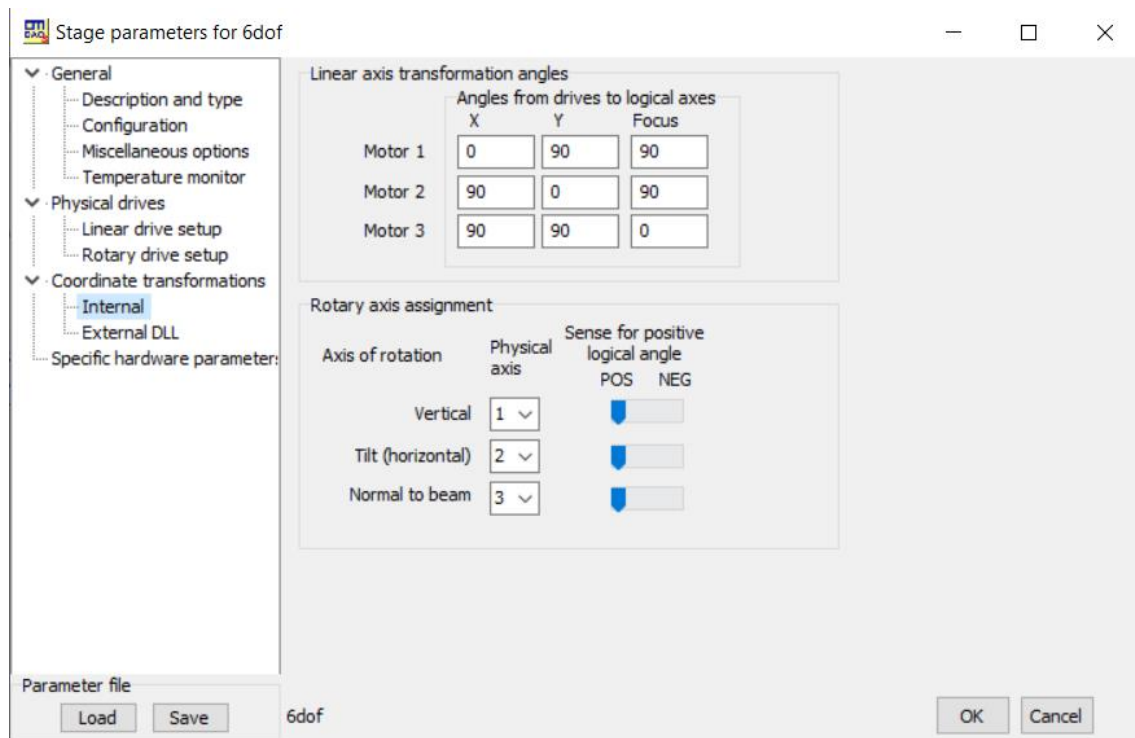

Figure 3 – Settings so that physical and logical coordinates are the same in OMDAQ3.
***Please note that OMDAQ3 makes a distinction between physical and logical coordinates. The coordinates seen by the user in the data acquisition system are the logical coordinates. By default, the logical x and y coordinates are the physical x and y coordinates multiplied by -1, while the remaining coordinates (z and angles) are the same. Therefore, if the logical x is 50 the physical x is minus 50 (-50), and the same with the y axis. This can generate some confusion since, if the conversion between the logical and physical coordinates is not changed, "logical motions" in the positive x or y direction will actually be physical motions in the negative x or y direction, and vice-versa. To change this, go to the "Settings" button in the stage panel (figure 2, fourth button to the right in the bottom left), go to *Coordinate transformations->Internal* and set the angles under "Linear axis transformation angles" so that the physical and logical axis are the same. This means changing the entry in the row "Motor1" and column "X" from 180 to 0 and changing the entry in the row "Motor2" and column "Y" from 180 to 0. The desired settings are shown in figure 3.